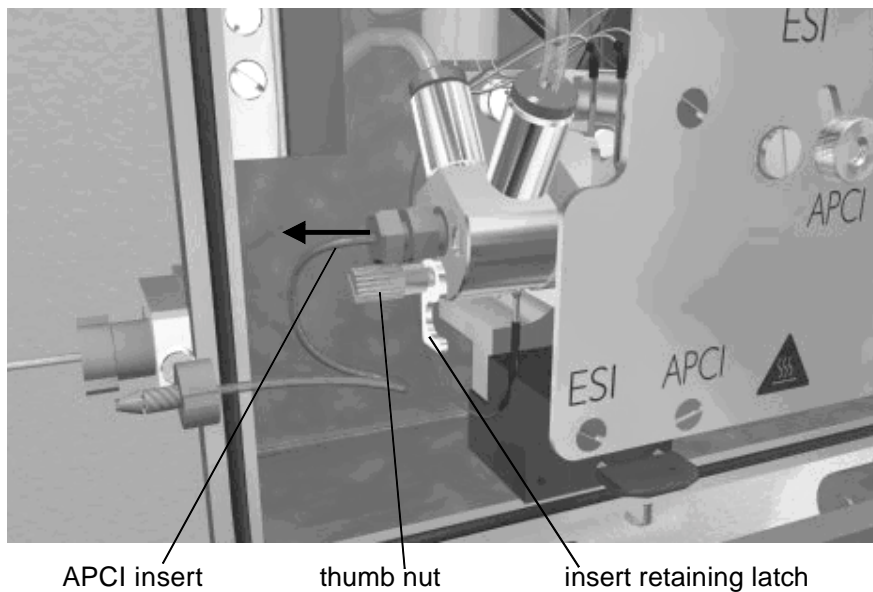

Figure 2-1. Removing the APCI insert
1. Loosen the thumb nut, and drop the retaining latch to the open position (see Figure 2-1).